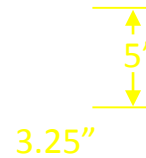

Figure 3
- Trim fascia** – Check for sensors, wires etc. on the inside of fascia prior to trimming. Find the center of the fascia and trim the vehicle fascia per **Fig. 3**. *Dimension are approximate.
6. Trim fascia – Check for sensors, wires etc. on the inside of fascia prior to trimming. Find the center of the fascia and trim the vehicle fascia per **Fig. 3**. *Dimension are approximate.